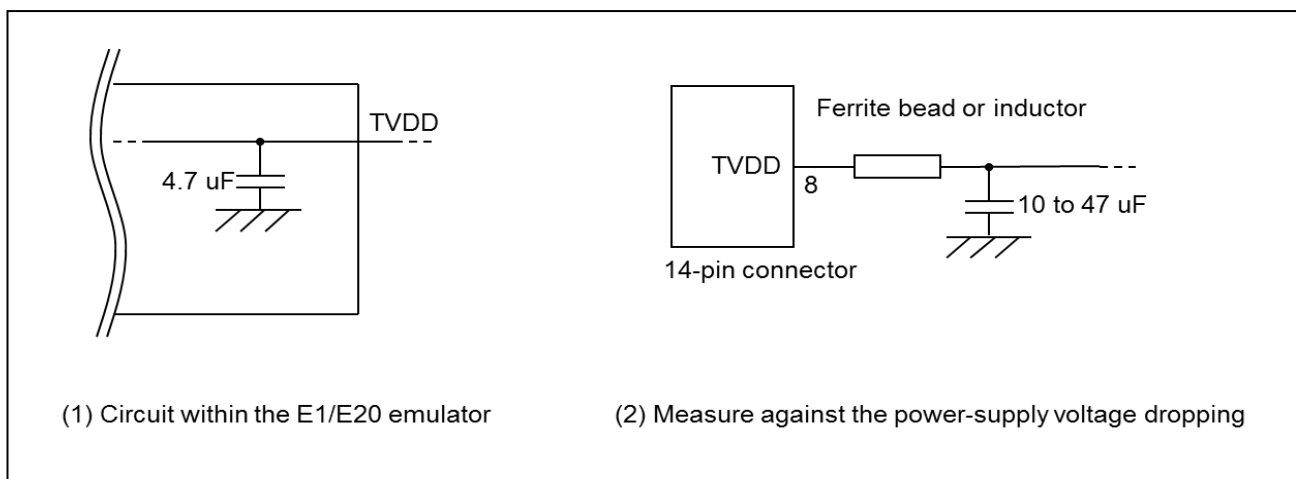

Figure 2-7 Circuit Configuration for Hot Plug-in
Pin 8 of the E1 emulator is connected to a 4.7-uF capacitor as shown in (1) in Figure 2-7, so hot plug-in connection of the emulator may lead to a momentary drop in the power-supply voltage on the user system. This might cause the MCU to be reset.
As shown in (2) in Figure 2-7, this effect can be reduced by placing a ferrite bead (or inductor) and relatively large capacitor with low equivalent series resistance near the TVDD line of the connector for connection of the emulator. Note that this measure will not completely eliminate the voltage drop. Note that hot plug-in connection is only for use during debugging, and a separately sold hot plug-in adapter is necessary to use this function otherwise.